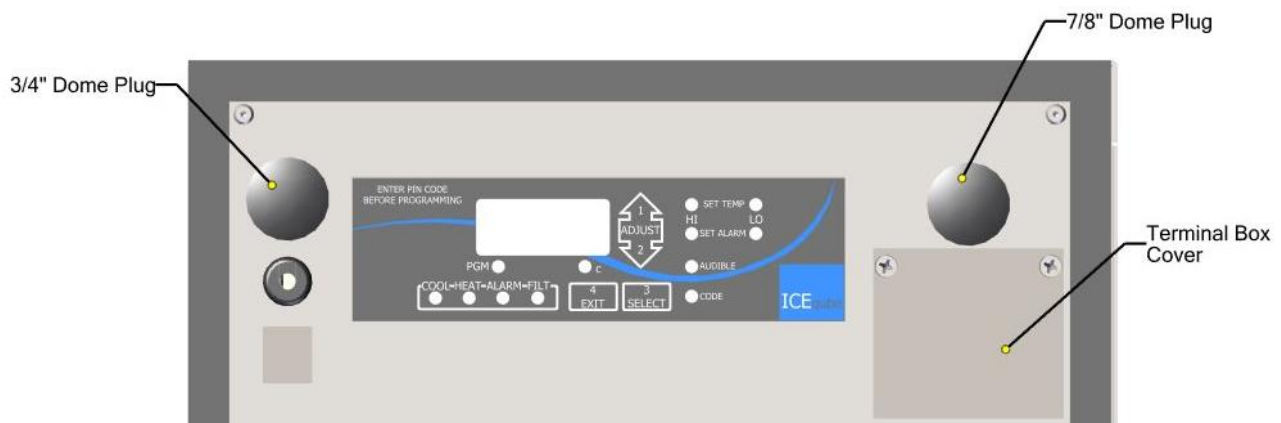

Figure 3: Terminal Cover
3. Remove the (2) terminal box cover screws and remove the cover. (See *Figure 3: Terminal Cover*)
5. Remove Dome Plug and route power cable through the 0.875" (22.23mm) hole. Recommended conductor size is 14AWG. Use an approved strain relief to secure wires. (See *Figure 3: Terminal Cover*)